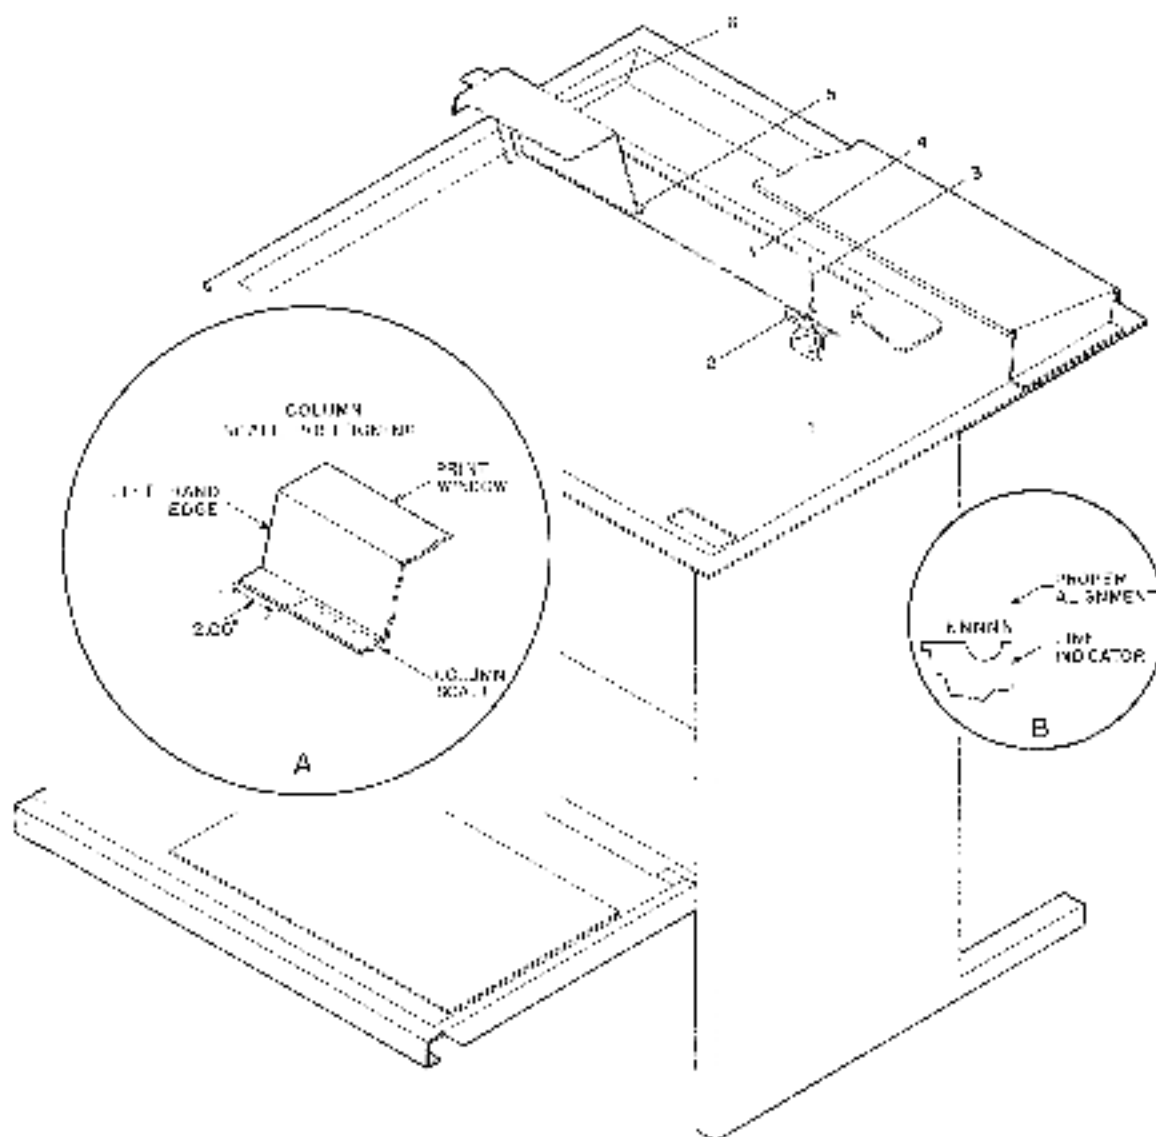

Figure 7-4 Installation of Scale and Pointer
2. The column pointer (item 2 in Figure 7-4) and its associated spacer are manufactured as a single unit. The spacer is attached to the side of the pointer by a thin web. Before installing the pointer, these two parts must be separated at this web. Fold the spacer down under the pointer to break apart.
3. Install the column pointer and spacer on the line indicator using the #4 screw, lock washer, and flat washer (item 3).
4. The light shield (item 1) has a flat black surface that minimizes glare and reflections. The shield mounts on the sloped surface of the top cover. Peel off the backing and position the shield on the cover.
5. The column scale (item 5) adheres to the lip on the print window (item 6) as shown in Figure 7-4. Insert A of Figure 7-4 details the placement of the scale on the window lip.
6. Insert B of Figure 7-4 shows the proper alignment of the line indicator and printed characters after five Ns have been printed and a backspace occurred. The right-hand vertical ascender of the last N printed should align over the right edge of the line indicator. If necessary, loosen the two mounting screws and correct the alignment.